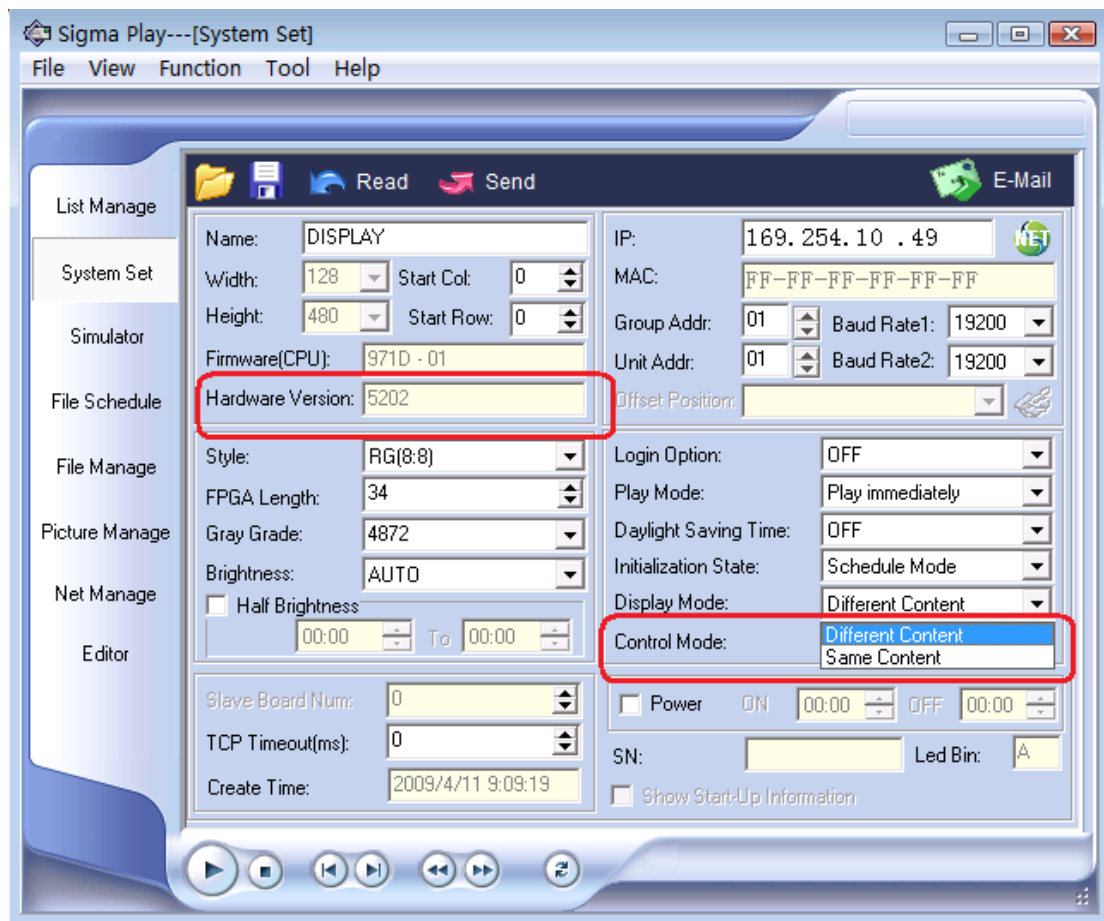

Figure 9.02
3. Some LED screens are built with the CPU board QS5202. In such a case, you can use Sigma 4.10 to set single-side or double-side mode. See Figure 9.02